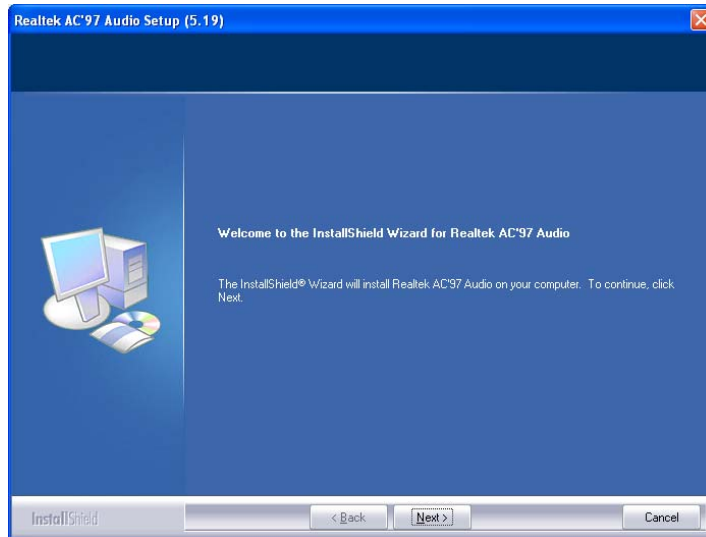

Figure 6-21: AC'97 Driver Installation Welcome Screen
Step 6: The AC’97 Driver Installation screen in Figure 6-21 appears.